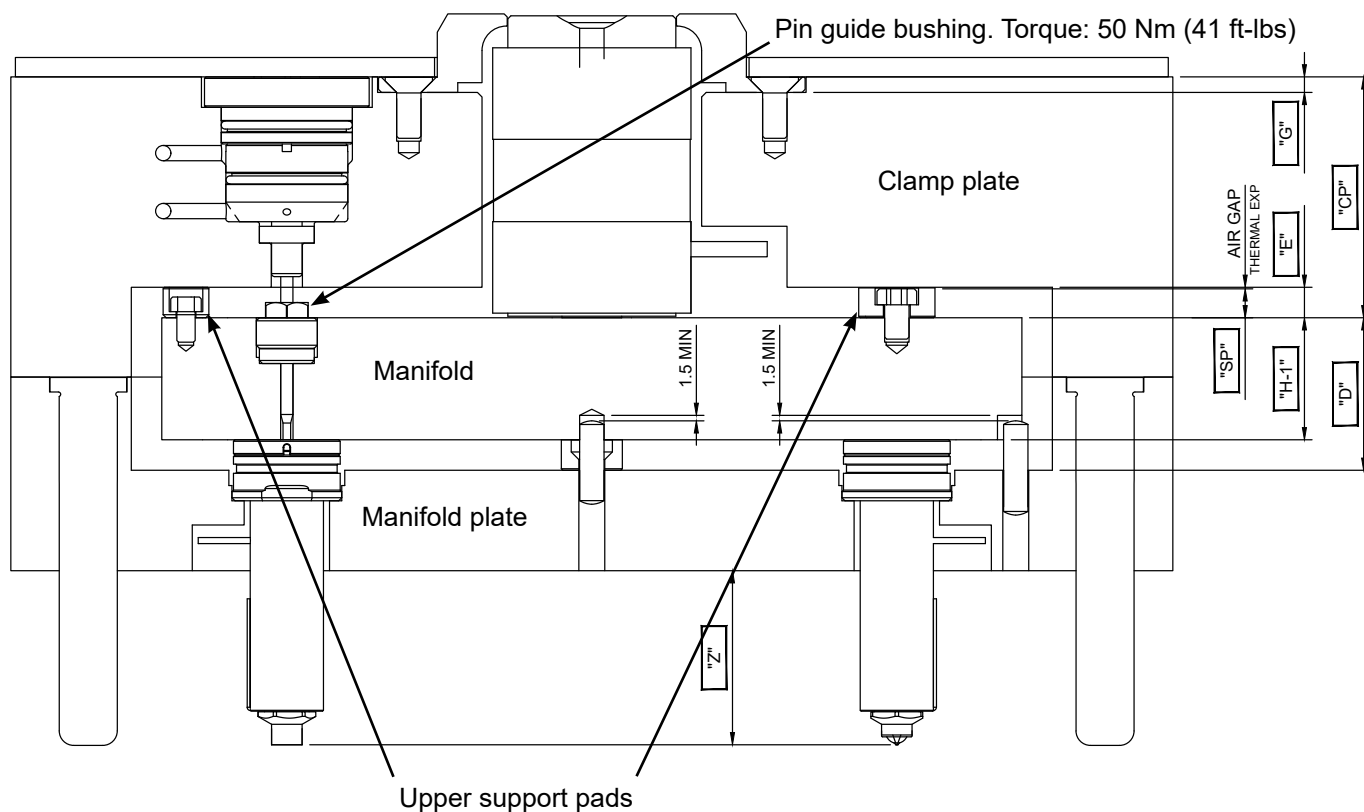

Figure 6 Locations of Support Pads and Pin Guide Bushing
Size and install the upper support pads into the underside of the clamp plate. (Note: The upper support pads are manufactured from a non-magnetic material. Fabricate a fixture to the grinder to hold the support pad.) This dimension will be the “E” dimension minus air gap (cold clearance) specified on the system general assembly drawing (see Figure 6 Locations of Support Pads and Pin Guide Bushing). Record this as dimension “SP” on the Master Inspection Sheet.
- Install the VG pin guide bushing and retaining screw into the threaded holes in the top of the manifold. Tighten the pin guide bushing to a torque 50 Nm (41 ft-lbs). See Figure 6 Locations of Support Pads and Pin Guide Bushing.
- a. Install the VG pin guide bushing and retaining screw into the threaded holes in the top of the manifold. Tighten the pin guide bushing to a torque 50 Nm (41 ft-lbs). See Figure 6 Locations of Support Pads and Pin Guide Bushing.